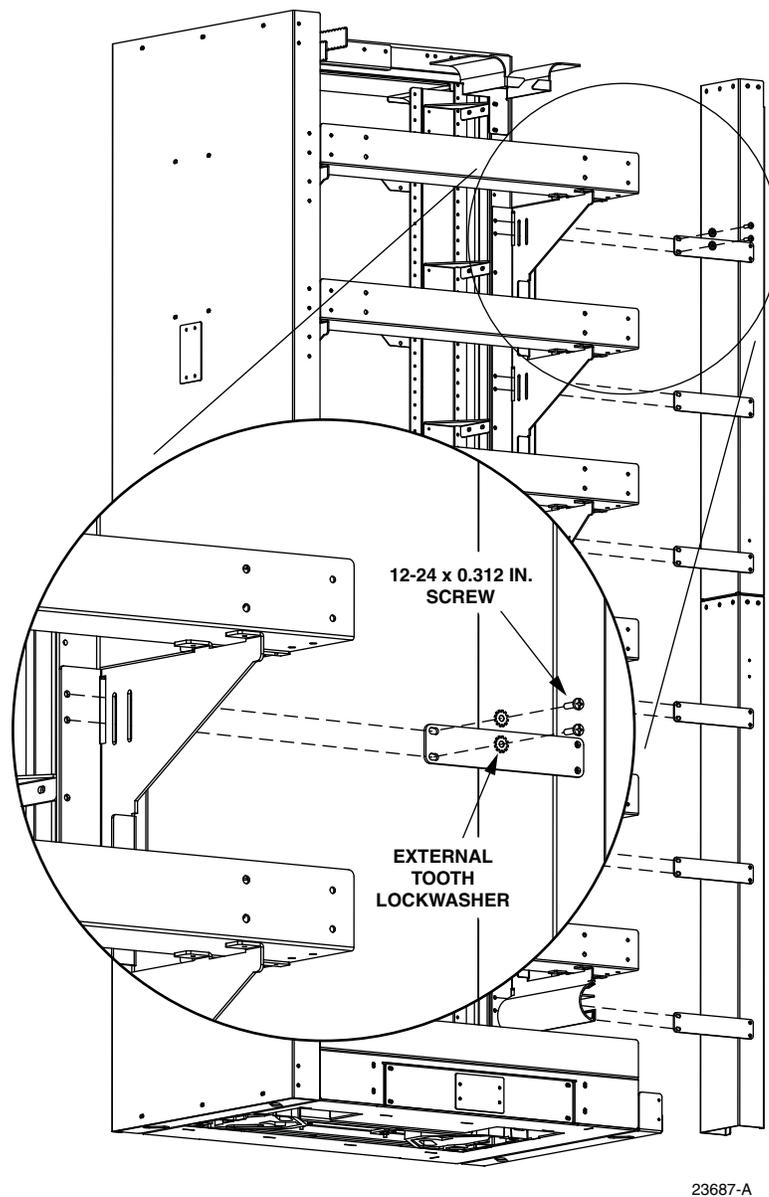

Figure 5. Assembling Electrical Trough to Frame
3. Assemble the electrical trough to the frame using two 12-24 x 0.312 inch screws and two external tooth lockwashers on each of the end guard mounting brackets, as shown in Figure 5.
3. Assemble the electrical trough to the FOTSP using two 12-24 x 0.312 inch screws and two external tooth lockwashers on each of the right frame to end guard mounting brackets, as shown in Figure 5.